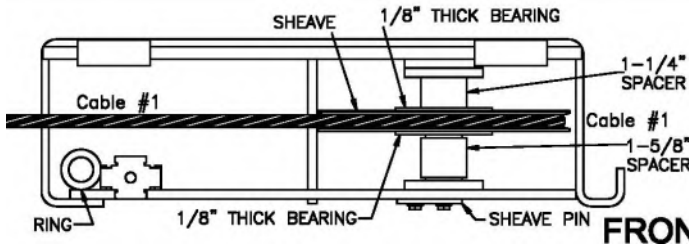
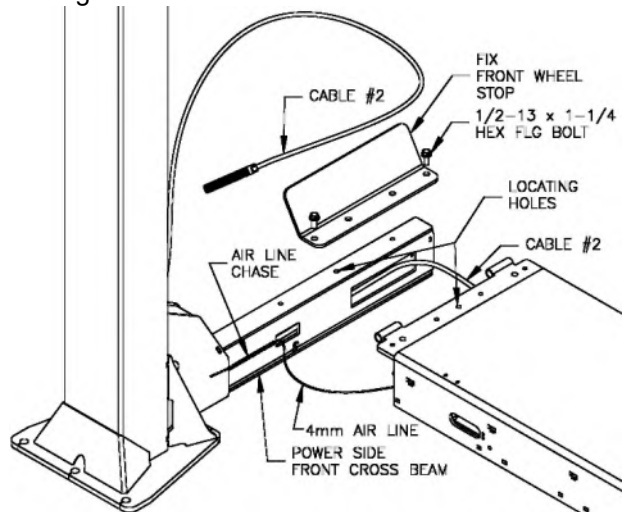
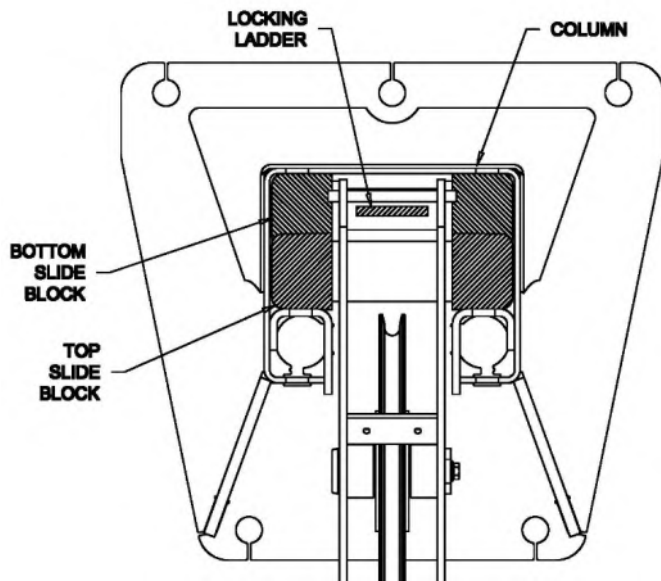

Fig 8 – Idler Runway Single Stack
Fig 20 – Front Cross Beam Installation
Fig 21 – Locking Ladder Orientation
- 11) Route **Cable #1** through the idler runway (don't forget to route it up over the cross-braces in the bottom of the runway) and out the front of the runway. Reinstall the front idler runway sheave, bearings, and spacers being sure to set the cable into the Sheave channel as shown in Fig 8 & 13.
- 16) The runways to crossbeam positioning can be located using a tapered punch to pry on the locating holes in the runway and crossbeam **NOTE: The locating holes are not threaded. See Fig 20.**
- 31) Ensure that the power side front crossbeam is touching the power column base plate and stand the column up. Insert the Lock Ladder into the slot, **Fig 21**, and reinstall the Column Top Plate and pins. Move the column into position. Reach in through the small access hole in the crossbeam tube, **Fig 20**, and pull out the 6 ft. roll of 4mm" dia. plastic air line connected to the air cylinder at the end of the crossbeam.
- 32) Remove the crossbeam sheave guard, sheave, Pin etc. Feed **Cable #2** into the crossbeam's large access hole and back out the top, **Fig 20**. Insert the air line into the first Ring in the runway end. See **Fig 8 and 9** for ring location.